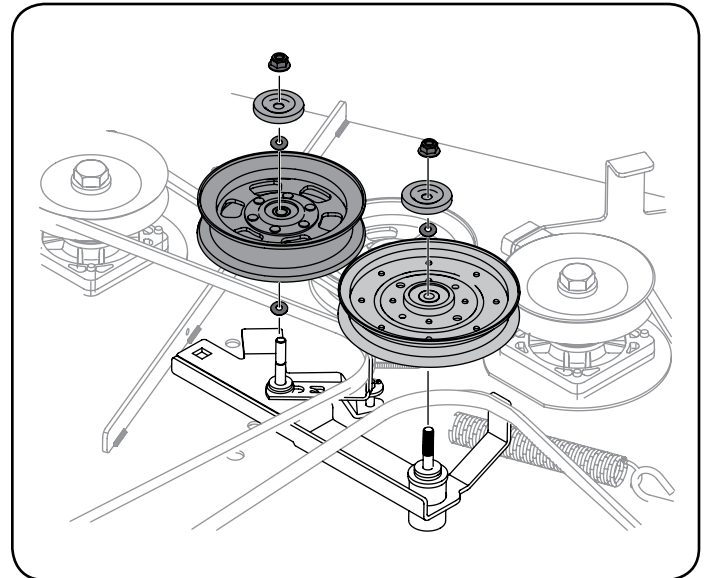

Figure 41
3. Remove the two idler pulleys by removing the hex screws, washers and flange lock nuts that secure them to the deck and the idler arm. See Figure 41. Do not lose any of the hardware when removing the hex screw and flange lock nut.